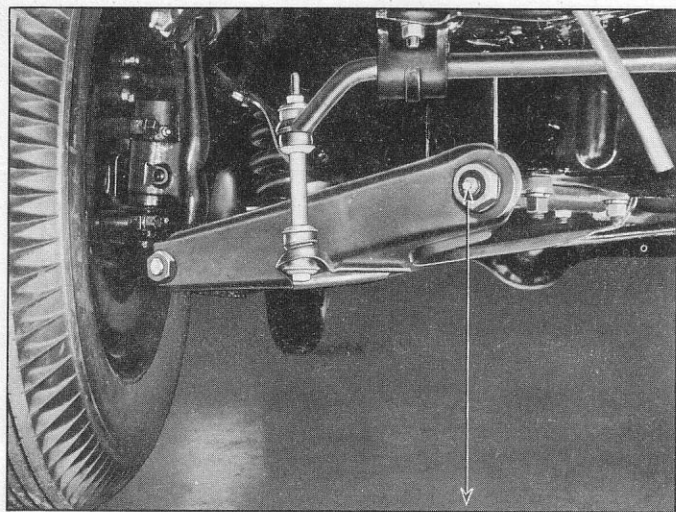

Fig. 3—Measuring Riding Height
2. Measure distance from centerline of lower control arm inner pivot shaft to floor (fig. 3). This distance should be as shown in Specifications, Section 14.